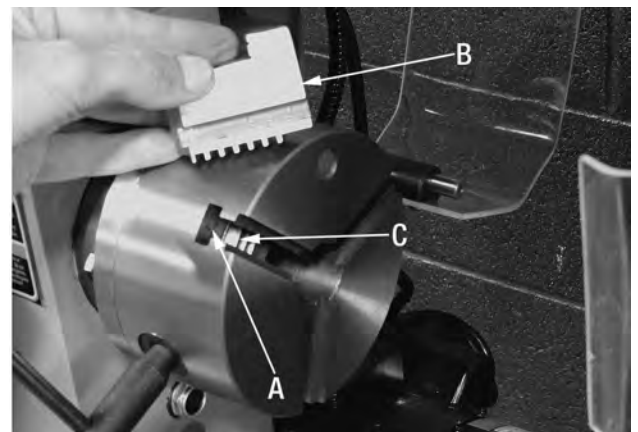

FIGURE 11
4. Locate the slot in the chuck (A) Fig.11 and the jaw (B) with the #1 markings as shown and rotate the chuck key in the clockwise direction until you see the beginning of the lead thread (C) on the scroll come into view through the slot, then back it off slightly until it disappears again. The lead thread is still showing in the slot in Fig.11. The jaw cannot be loaded until the lead thread for the scroll is no longer seen in the slot.